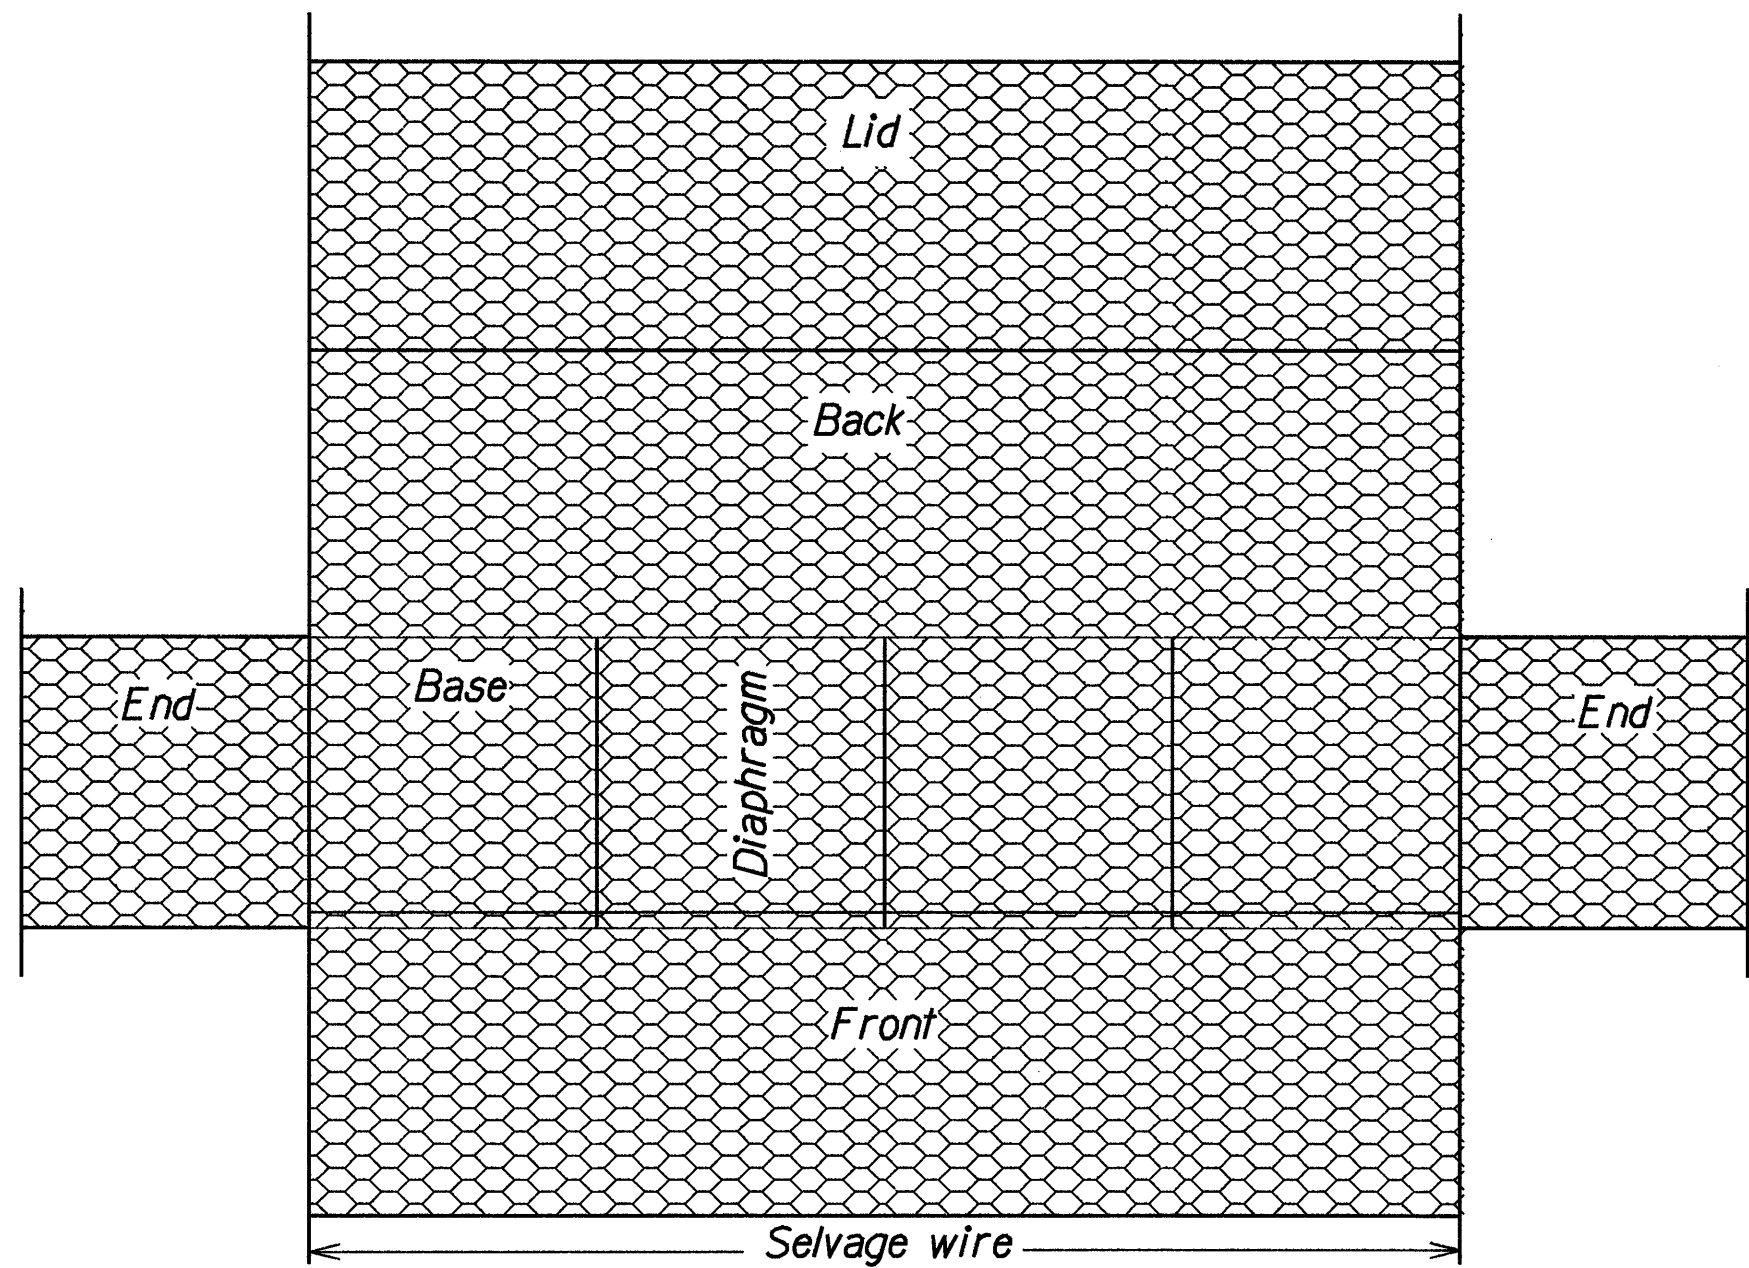

FIGURE 1
- Unpack and unfold the gabion flat on the ground. Stretch as much as possible, making sure all creases are in the correct position for forming the box. Stamp out all kinks and folds. (See Figure 1)